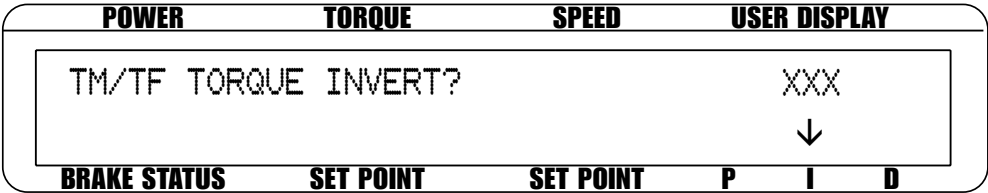

Figure 6–7 Torque Invert Flag Screen
1. See *Section 3.2.1 - Dynamometer Configuration*. When the TM/TF torque sensor is chosen, after the max torque screen, the TM/TF torque reading invert flag screen will be displayed as in *Figure 6–7 Torque Invert Flag Screen*.